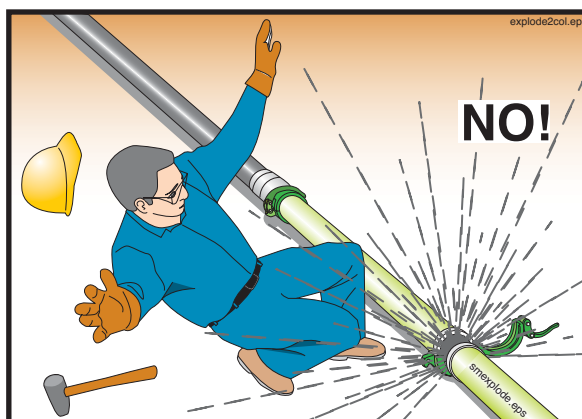

Figure 79
16.17 **⚠ WARNING** Expulsion hazard! (See Figure 79.) Never open a pipeline that is under pressure. The pump must be run in reverse for at least two strokes and then stopped before opening a pipeline. If the pipeline is pressurized with air, do not open it. The operator is responsible for knowing how to safely release the air pressure.